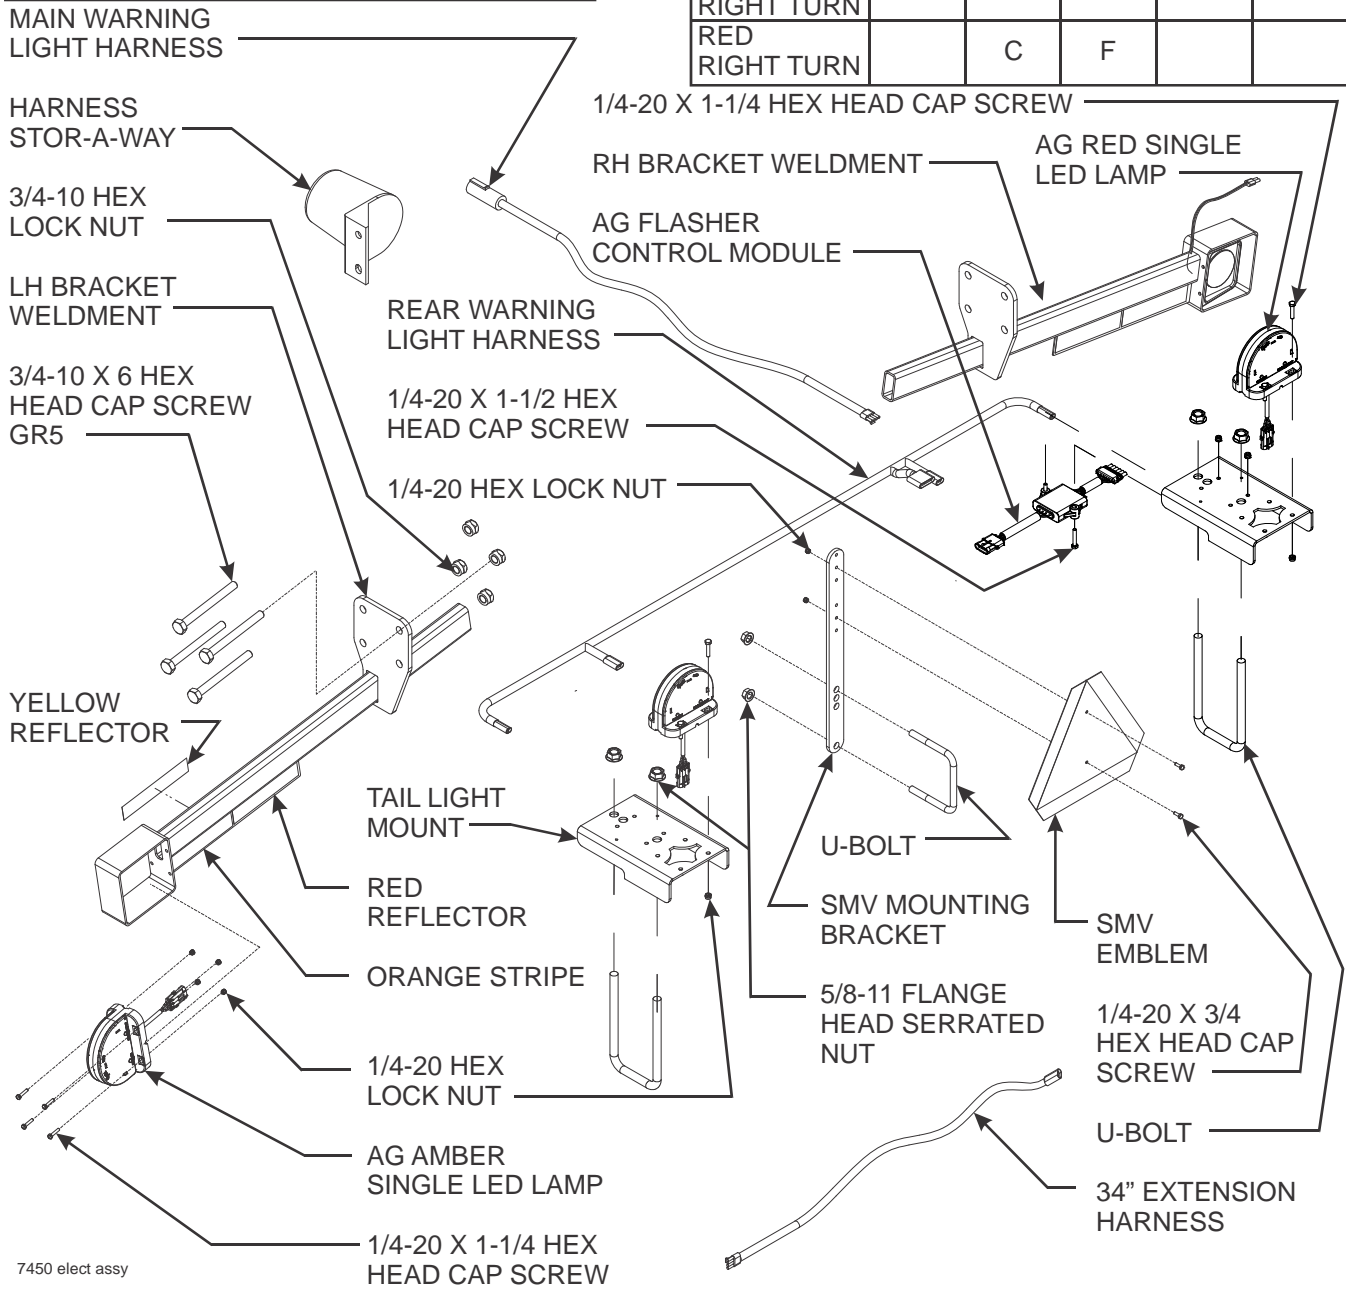

Figure 3-21: Light and SMV Bracket Installation
1. Attach lights and mounting brackets to the center frames using u-bolts, 3/4-10 x 6 hex head cap screws, and hex lock nuts (**See Figure 3-21.**) Refer to page 2-6 thru page 2-11 for light bracket placements.
4. Connect one 34" extension harness from main warning light harness to rear tow tandem adapter harness. Connect other 34" extension harness from other connector on rear tow tandem adapter harness to the ag flasher control module. Route extensions through right side of rear tow hitch (**See Figure 3-21.**)